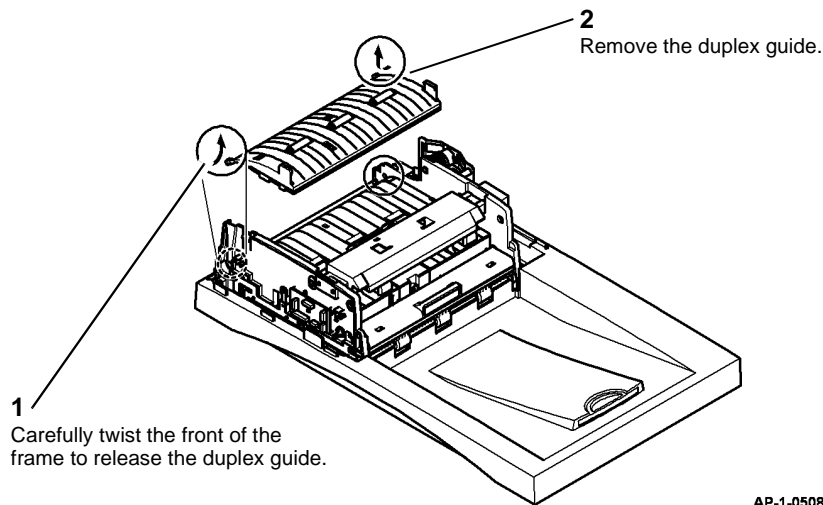

Figure 9 Duplex guide removal
10. Remove the duplex guide, Figure 9.